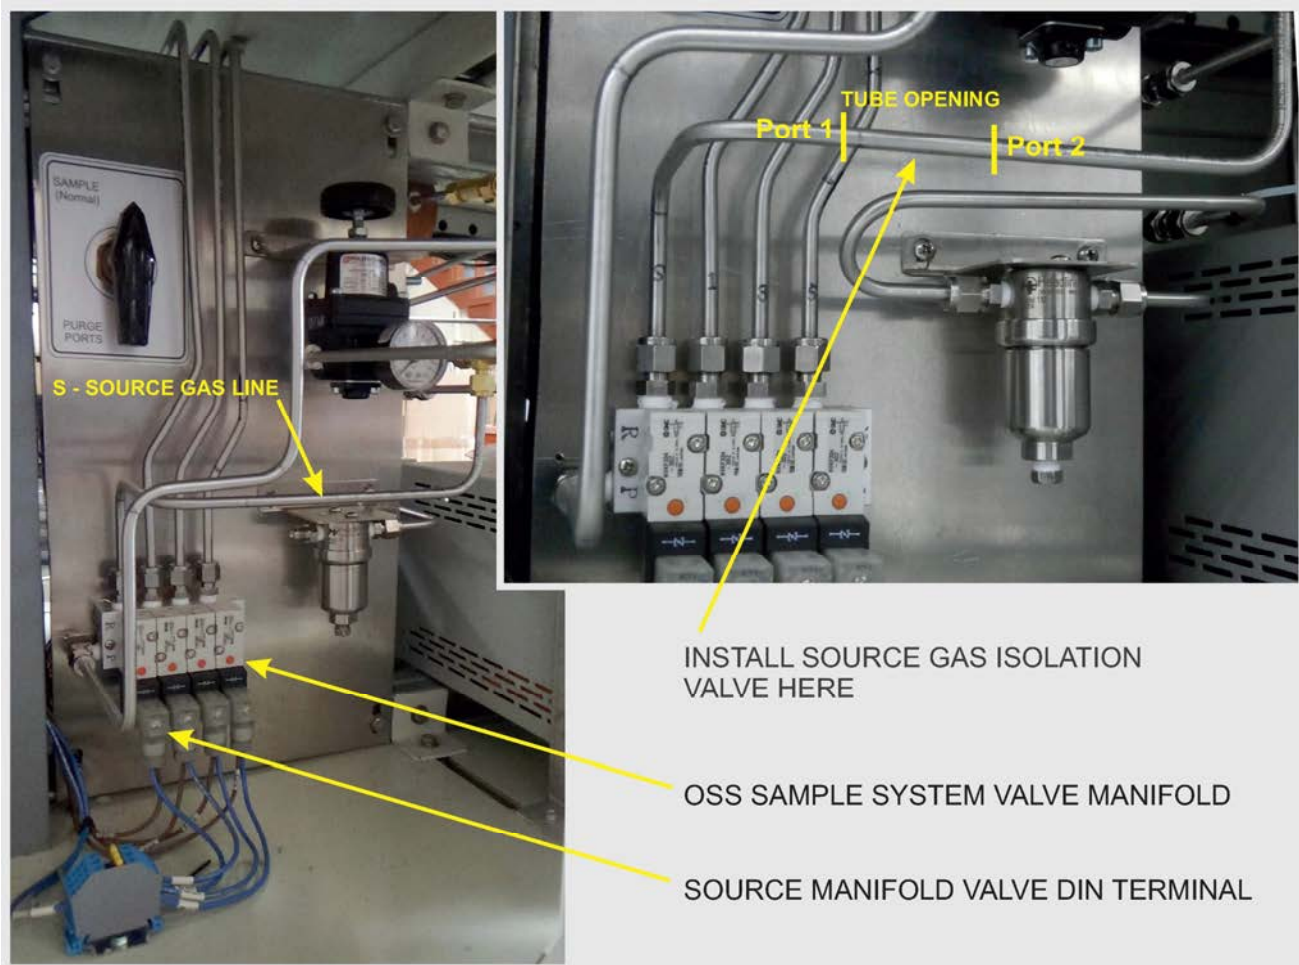

Figure 7-2. LOCATION OF ISOLATION VALVE & MANIFOLD
1. Open lower furnace panels and locate the OSS Sample System valve manifold and Source Gas Line (see Figure 7-2).
1. Locate the Source Gas Line (see Figure 7-2).